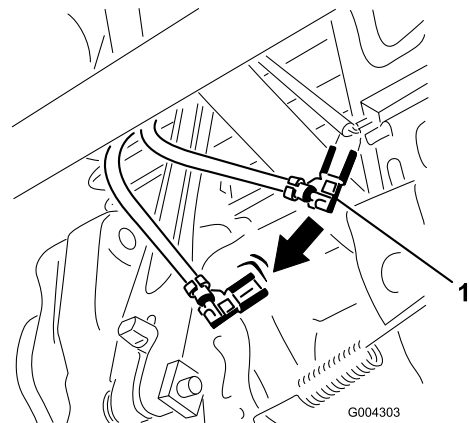

Figure 19
6. Disconnect the green ground wire clip under the throttle (Figure 19).